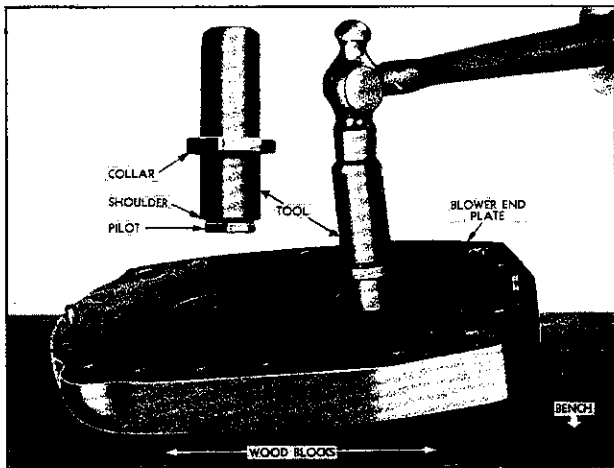

Fig. 6—Removing Rotor Shaft Bearings, also Oil Seals from Blower End Plates.
- (d) Turn the two puller studs (A) uniformly clockwise and push rotor shafts from bearings in rear plate. Front plate, with rotor shafts still assembled in bearings, will be pushed away from blower housing simultaneously.
- (e) Remove tool from rear end plate and the two fillister head retaining screws, then pull plate from position by hand. Withdraw rotors and front end plate assembly from blower housing, if rotors are not scored. If rotors are scored, remove front end plate from rotor bearings before withdrawing rotors; as outlined in item (8) below.
- (a) Attach puller plates (B) to blower front end plate with anchor bolts (D) screwed into holes from which bearing retainer bolts were removed—the same as in 6-c above.
- (b) Turn the two puller studs (A) uniformly clockwise and push rotor shafts from bearings.
- (a) Insert bearing removing tool through oil seal from inner face of blower end plate, as shown in Fig. 6, so pilot of tool enters bore in inner race of bearing and shoulder of tool rests against face of bearing inner race.
10. **Remove Bearing Oil Seals From Blower End Plates**—Inspection of oil seals for leaks while the blower was running on the engine largely determined if they should be changed. A further inspection may be conducted after blower has been disassembled. If the leather is scored so that a tight seal on shafts is impossible or the leathers have become charred and hard, the seals should be changed. If change is necessary, the seals may be removed from the end plates at the same time the individual bearings are removed. This is done by continuing to drive down on the tool, shown in Fig. 6, until collar on tool rests on and forces seal down and out of plate.